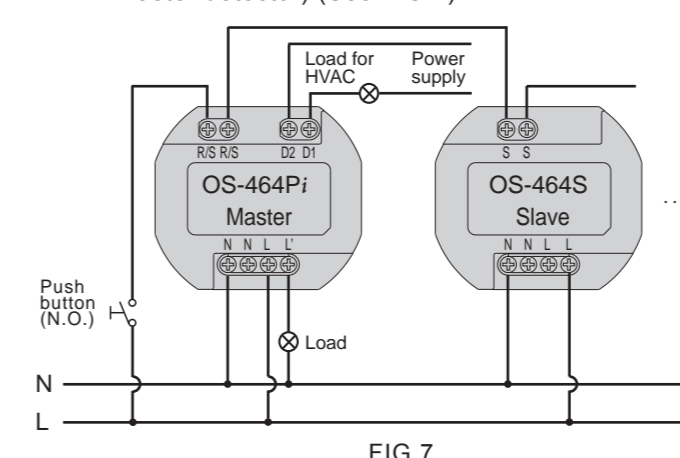

FIG.7
- 3.3.1.3 Master / Slave operation (Max. 10pcs slave detectors can be connected to R/S terminal of the master detector) (See FIG.7).